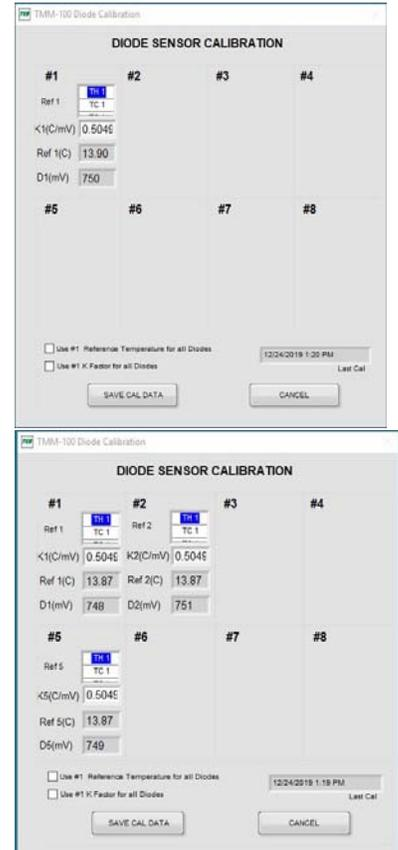

Figure 2-10 Diode Calibration
- 3) Click on the CALIBRATE DIODES button below the data area bottom right. This will bring up one of the calibration screens shown in Figure 2-10, the top screen for a single diode sensor and the bottom screen for multiple diode sensors.
- 4) If a single diode sensor is being used, enter in the K Factor (K) value for the diode in units of °C/mV. (See Diode Temperature Sensing section in Chapter 3.) For multiple diode sensors, individual K values can be entered or sensor #1 value can be used for all the sensors by checking the box in the lower left of the screen.